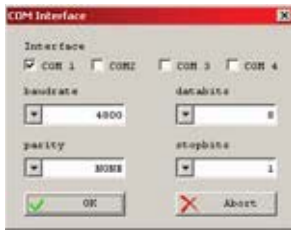

Fig. 202: COM port setting
2. ▶ Configure the COM port (Fig. 202).